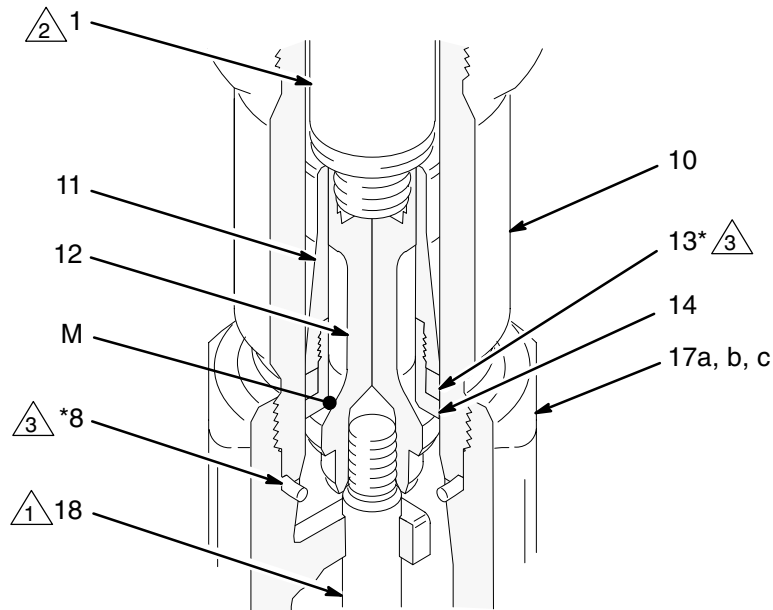

Fig. 12
9. Remove the seal (8) from the bottom of the cylinder (10). See Fig. 12. Shine a light into the cylinder to examine the inside surface for scoring or damage. **Only if the cylinder is damaged, or there is evidence of leaking around the top cylinder seal (8),** unscrew the cylinder from the outlet housing, using a pipe wrench. Remove the top cylinder seal.
10. Place the flats of the displacement rod (1) in a vise. Unscrew the piston (12) from the displacement rod; the priming piston rod (18) will come with it. Slide the piston guide (11) and seat (14) off the piston (12).
11. It is not necessary to remove the priming piston rod (18) from the piston (12) unless your inspection reveals damage to either part. To disassemble, place the piston flats in a vise and unscrew the rod.
12. Place the piston guide (11) in a vise, as shown in Fig. 11. Using an adjustable wrench, unscrew the piston seat (14) from the guide. Remove the seal (13); always replace it with a new one. Inspect the mating surfaces (M) of the piston (12) and piston seat (14) for damage or wear. See Fig. 12.
-  1 Piston check valve (see Fig. 12).